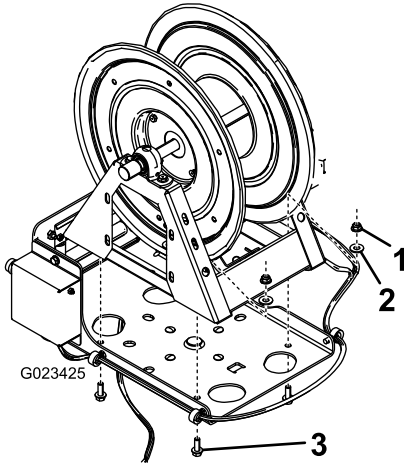

Figure 7
7. Secure the hose reel to the swivel plate using 4 short bolts (3/8 inch), 4 small washers, and 4 flange nuts (3/8 inch) as shown in Figure 7.